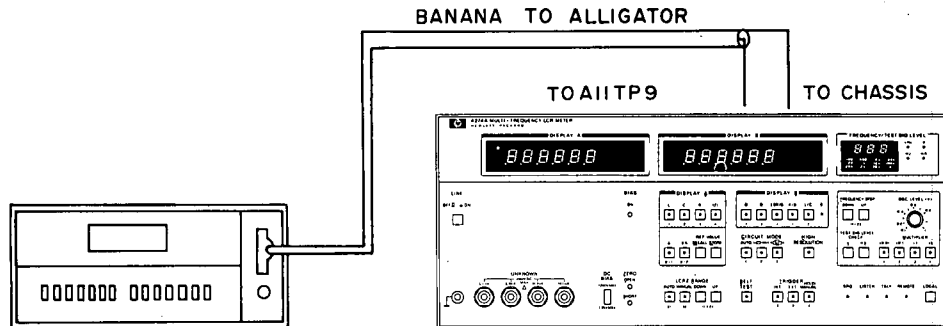

Figure 5-1. All Power Supply Voltage Adjustment.
- b. Connect voltmeter plus input to A11TP9 and minus input to 4274A chassis with dual banana-to-alligator clip cable. See Figure 5-1.